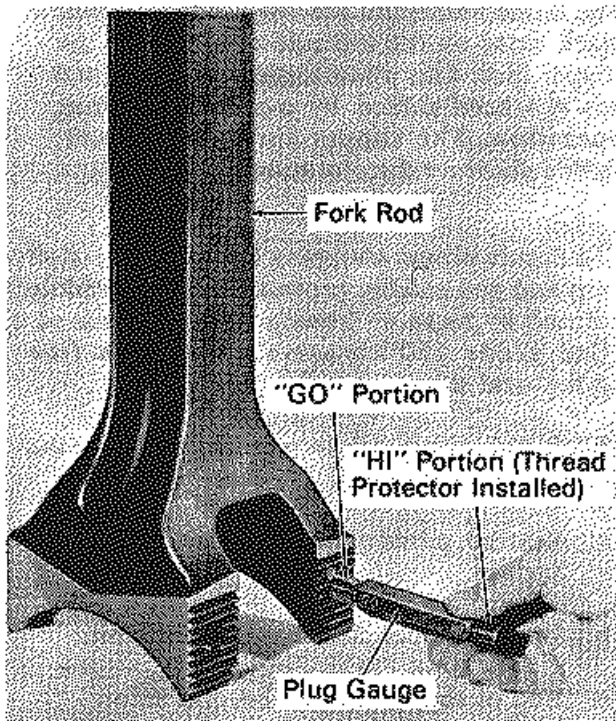

Fig. 3-13-Checking Fork Rod Bolt Threads
Plug gauge, Fig. 3-13, is available to check the fork rod bolt threads. One end of the gauge is marked "GO" and the opposite end "HI". The gauge should be used according to the following procedure.
- a. Thread the "GO" portion of the gauge into each of the holes, Fig. 3-13, and check for binding, which may indicate damaged threads. Normally, this gauge should enter the holes freely and a slight shake or wobble is permissible.